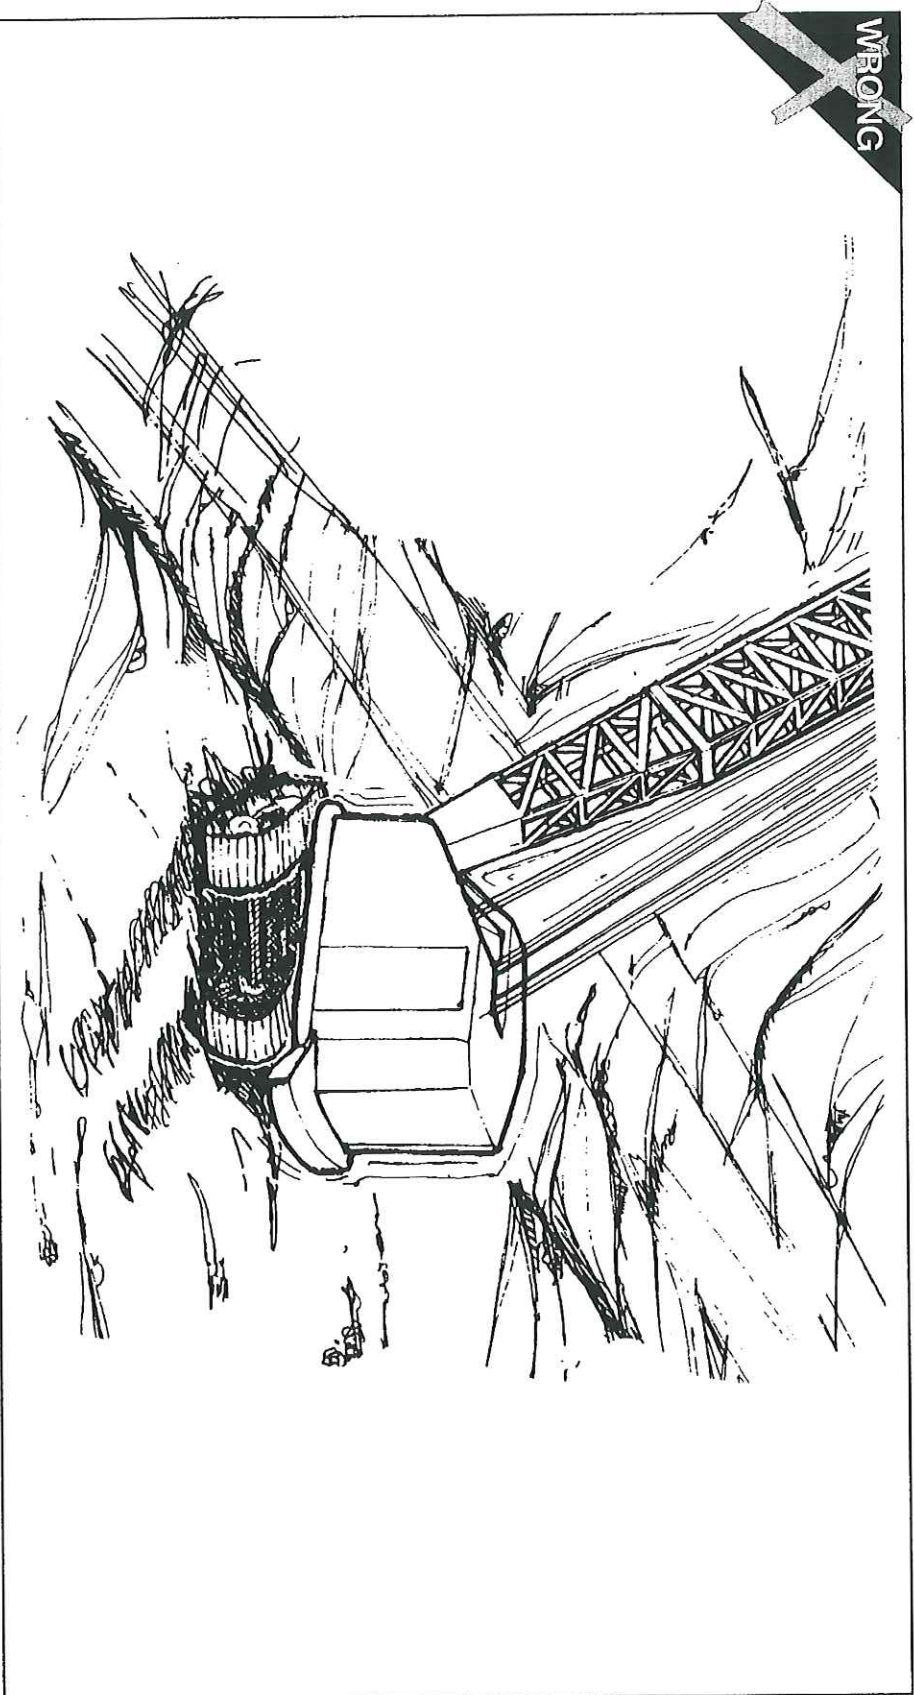

FIG. 40
- Job site personnel should beware of caving edges and overhanging banks — undercut edges may give way — bank may slide. (FIG. 40)